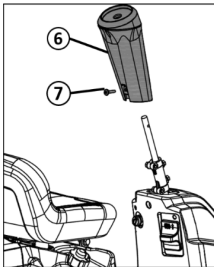
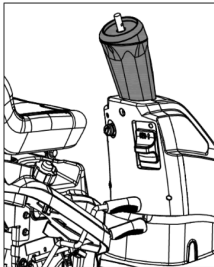

Figure 8
Figure 9
- 2. Install the shroud of direction rod to the designated position of the ride on mower according to the method shown in Figure 8, and the installation status is shown in Figure 9.